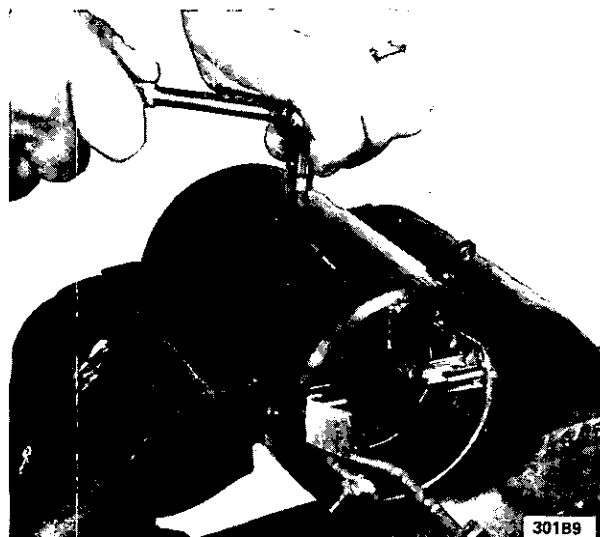

Figure 1B-9 Removing Pole Shoes
2. Unscrew the four (4) pole shoe attaching bolts and take **field** coils out of field frame. See Figure 1B-9.